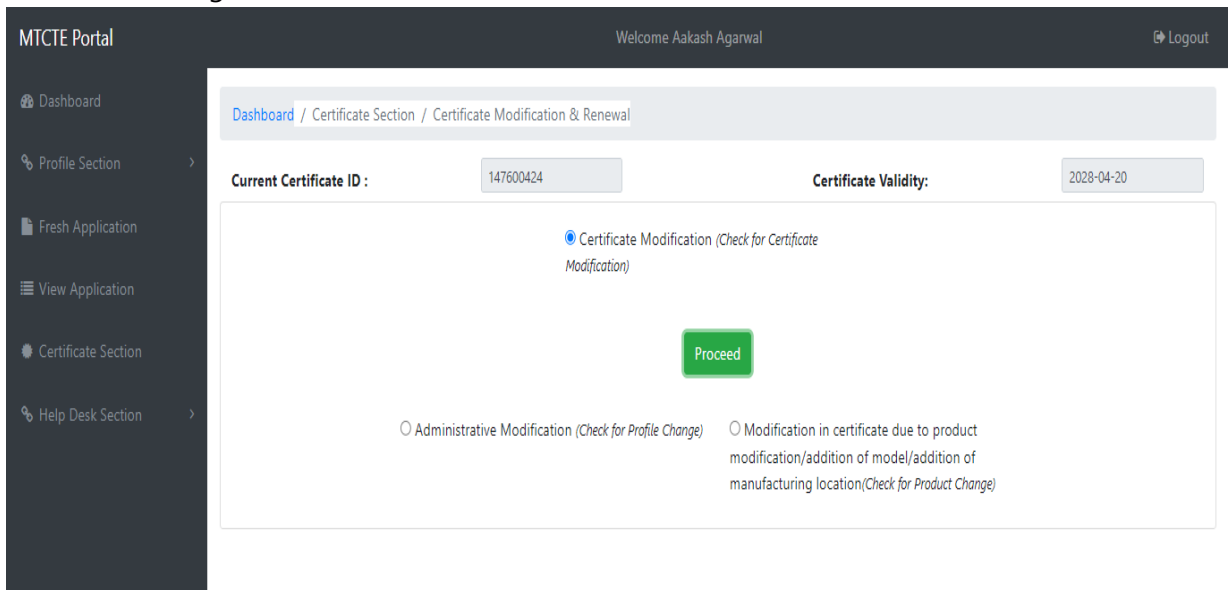

Fig. 30: Type of Modification for Regular Certificate
- d. For Regular Certificates, two options will be shown for modification which can be seen in the Fig 30: